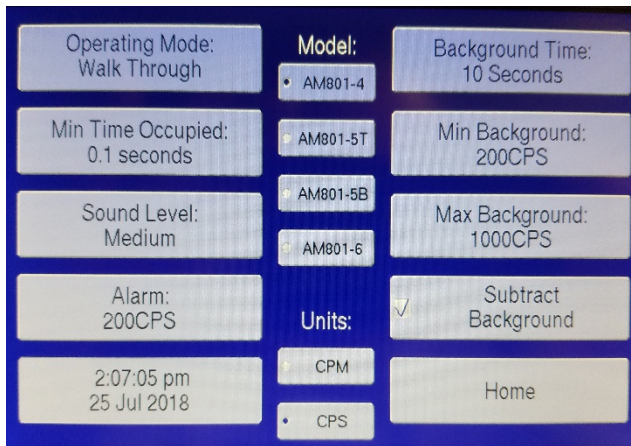

FIGURE 9
- 5.5.3 The button below the “Operating Mode” is “Min Time Occupied” this button is used to set the time the person being measured is in the portal. To measure radiation levels of less than 1  $\mu\text{Ci}$  set the time at 3 seconds. To set the time touch the “Min Time Occupied” button and a numerical key pad will appear. Enter 3 seconds and touch the “Enter” button the Screen should return to the SETUP SCREEN - FIGURE 9.